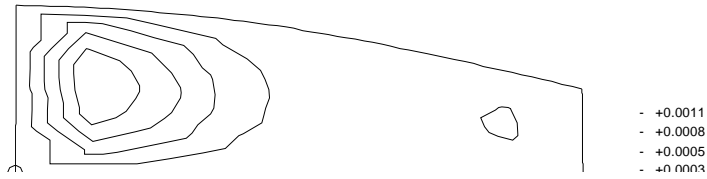

Fig. 4. Contour map of strain distribution for a surface.
**Contour map of strain distribution for** (Fig. 4). The contour map of strain distribution is shown in four colors: bright blue, bright green, bright cyan, and bright red. Each color represents a different value of strain, which is labeled in the DXF file.